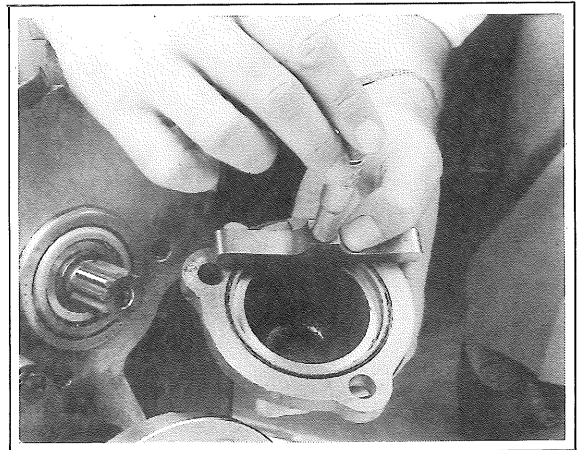

Fig. 21
2. Measure the depth of the recess in the oil pump and in the input shaft end cover, as shown in Fig 21. Make up the difference between the two dimensions with shims.